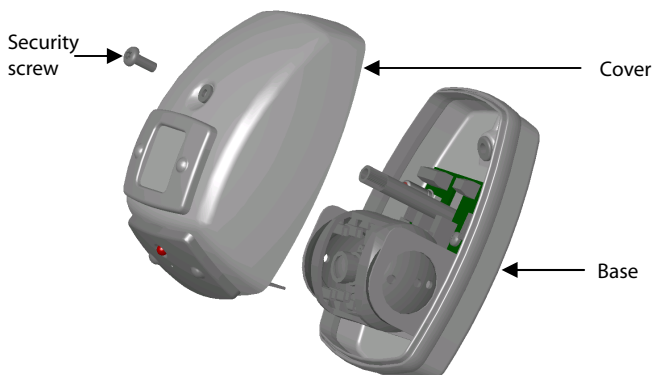

Figure 1
- 1 Use the security key provided with your camera to remove the screw that secures the cover to the base. See Figure 1.